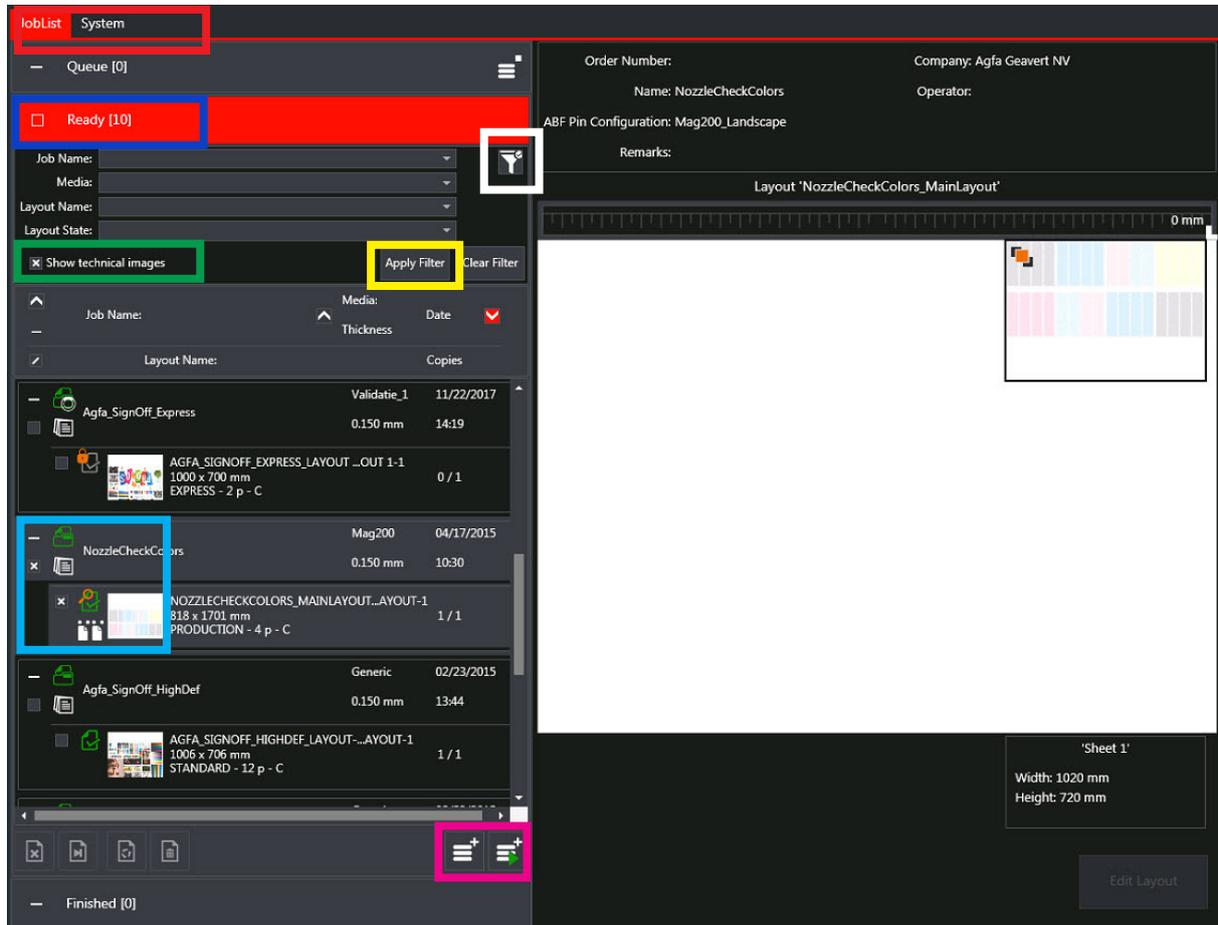

Fig.4-17: Job List Window
- Step 1: Select the JobList tab (outlined in red in Fig.4-17) in the GUI.
- Step 2: Select the Filter (outlined in white in Fig.4-17).
- Step 3: Activate “Show technical images” (outlined in green in Fig.4-17).
- Step 4: Select Job Name NozzleCheckColors (outlined in blue in Fig.4-17).
- Step 5: Apply the Filter (outlined in yellow in Fig. 4.17).
- Step 6: Select the layout In the Ready List (outlined in cyan in Fig. 4.17).
- Step 7: Add the selected layout to the queue (outlined in magenta in Fig. 4.17).
- Step 8: Open the queue pane outlined in red in Fig. 4.17) and start the queue. (outlined in blue in Fig.4-18)